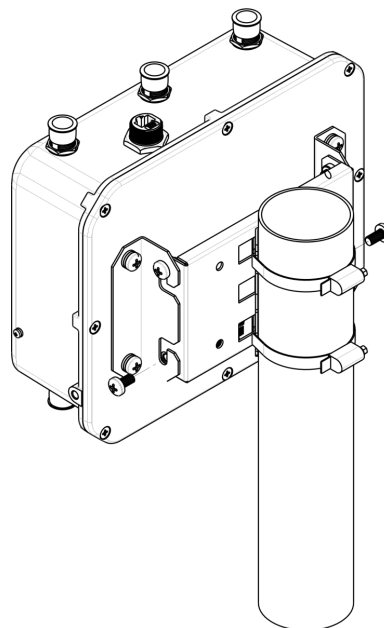

Figure 10 – Mounting the device on a mast/pole
a. Install the device on the top untwisted screws of a bracket attached to a mast/pole, see Figure 10.
b. Install screws in the bottom bolthole, see Figure 10.